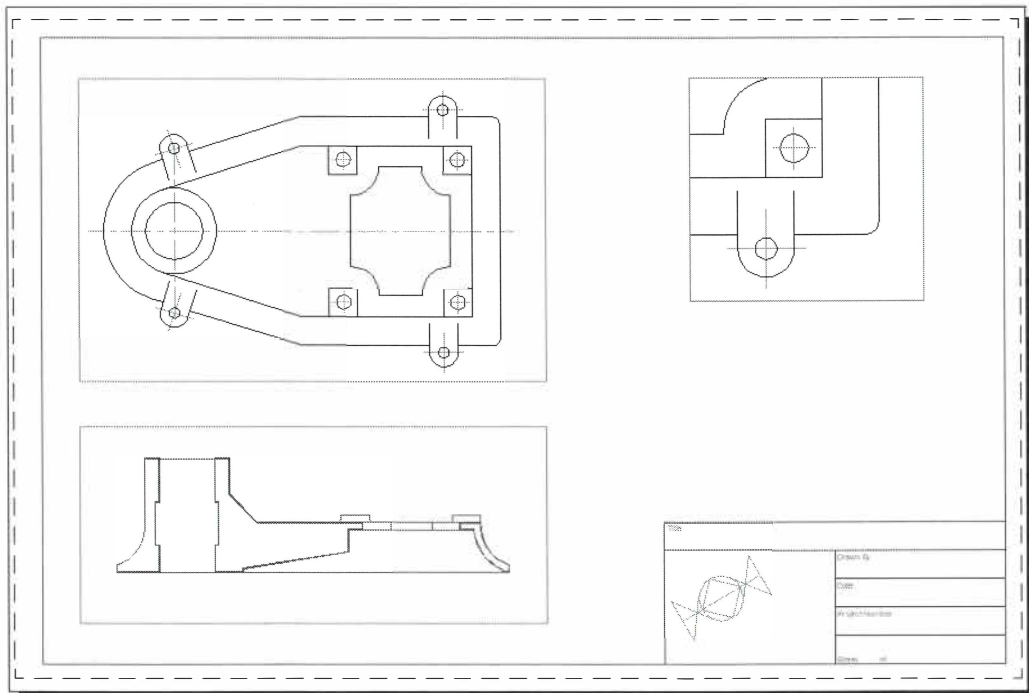

Figure 12–8
5. Create three new viewports, as shown in Figure 12–8. Scale the *Top View* and *Section View* to **1:1**. Scale the *Lug Detail* to **2:1**.